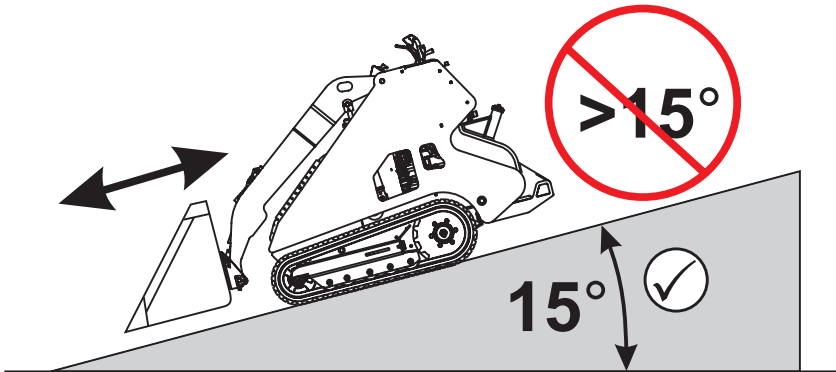

Figure 3-24 Uphill/Downhill Travel
- Keep the heavy end of the machine towards the uphill direction when traveling up or down a slope. **NOTICE:** When the machine has no attachment or load, the heavy end is the operator's platform end of the machine. See **Figure 3-24**.